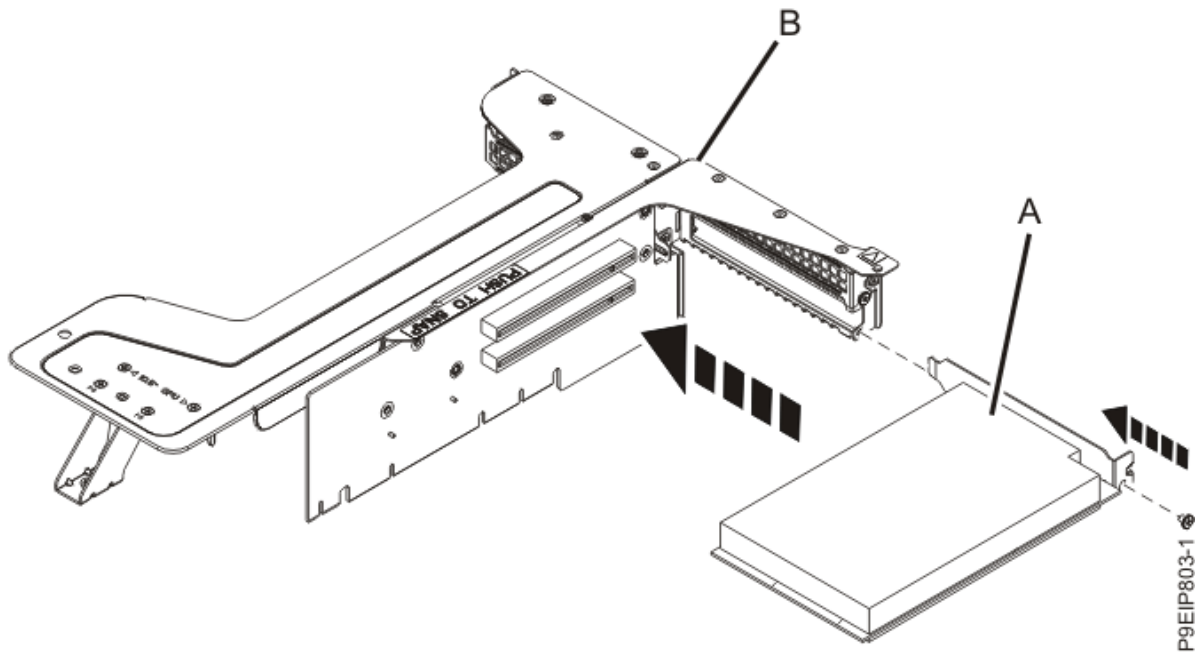

Figure 26. Inserting an adapter into position 0 or 1 of the PCIe riser
- b) Insert the PCIe adapter **(A)** in position 0 or 1 of the PCIe adapter riser **(B)** as shown in Figure 26 on page 28.